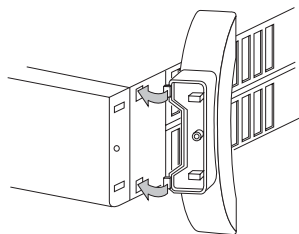

Fig. 1
- Insert the anchor pins into the slots and turn the foot until it clicks into position (fig. 1)